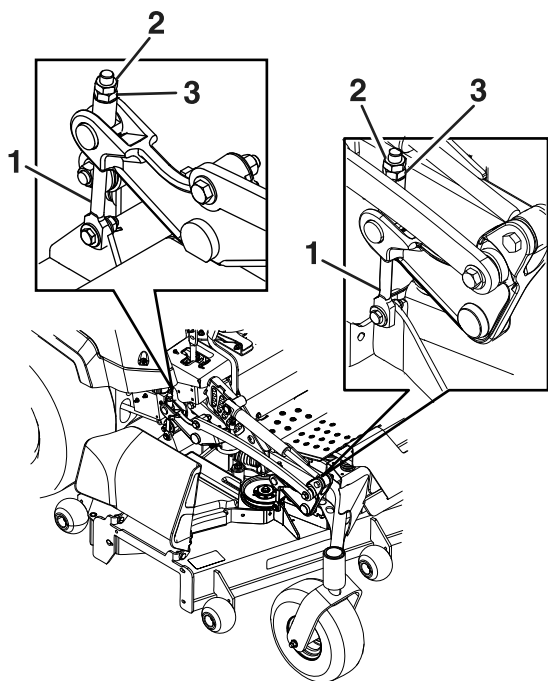

Figure 77
8. Fine-tune the adjustment nut on the front deck lift assembly by turning it (Figure 77).